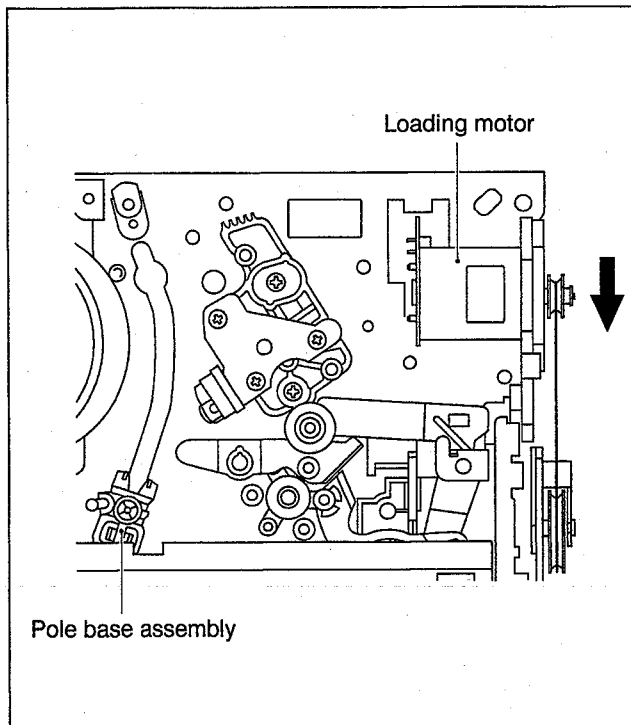
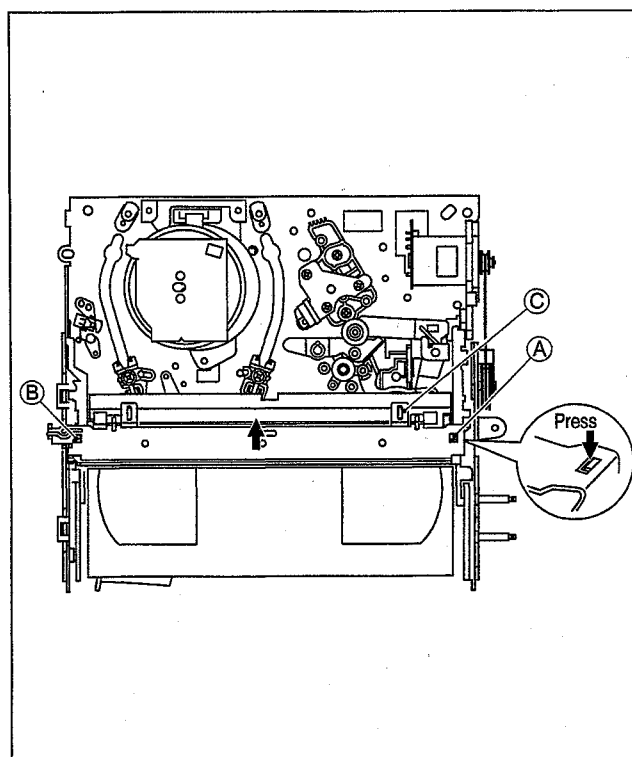

Fig. 2-1-1
Fig. 2-1-2
- (1) Unplug the power cable and remove the top cover. (See 1.3 DISASSEMBLY/ASSEMBLY METHOD)
- (2) Unload the cassette by manually turning the unloading motor of the main deck assembly toward the front. In doing so, hold the tape by the hand to keep the slack away from any grease. (See Fig.2-1-1)
- (3) Bring the pole base assembly (on the supply or take-up side) to a pause when it reaches the position where it is hidden behind the cassette tape.
- (4) Move the top guide toward the drum while holding down the lug **A** of the bracket retaining the top guide. Likewise hold part **B** down and remove the top guide. The spring plate **C** is then brought under the cassette lid. Then remove the top guide by pressing the whole cassette tape down. (Note 1) (See Fig.2-1-2).
- (5) Remove the cassette tape by holding both the slackened tape and the cassette lid.
- (6) Take up the slack of the tape into the cassette. This completes removal of the cassette tape.